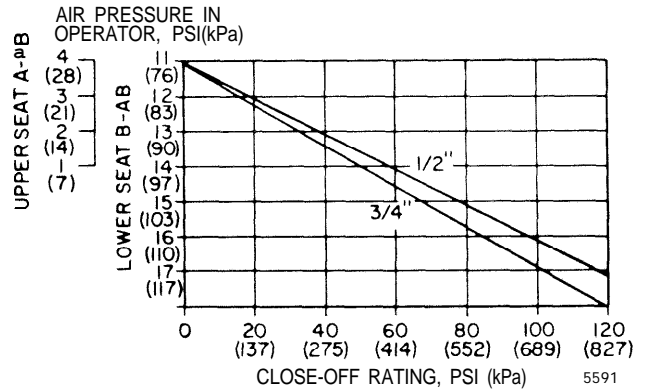

Fig. 1. Maximum Difference in Pressure Between Outlet and Inlet.
- Close-Off Ratings at Various Air Pressures: See Fig. 1